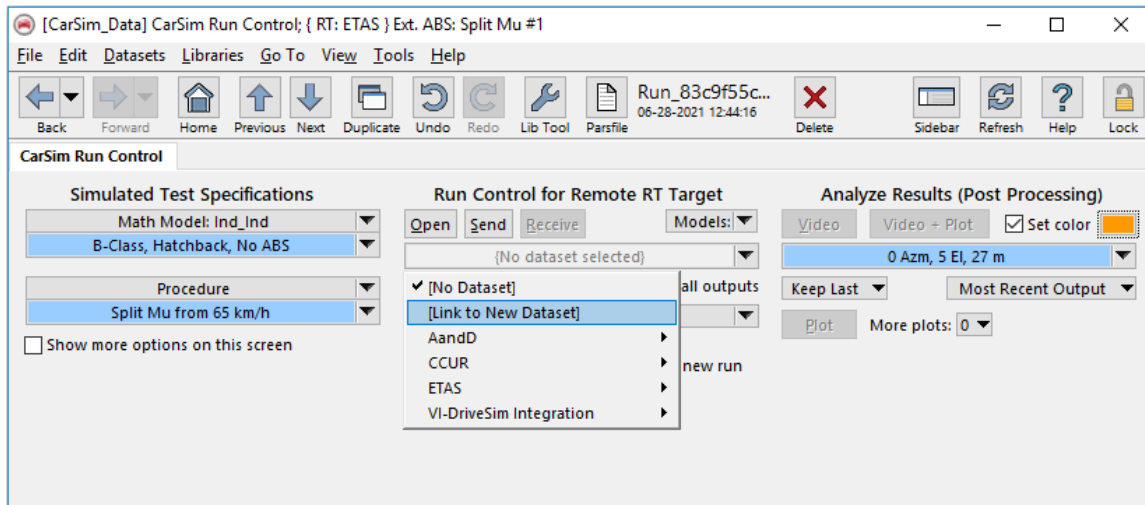

Figure 41. Make a new dataset in the Models: Transfer to Remote RT Target.
3. Use the dataset select control under the **Models** control and choose the option **Link to New Dataset** (Figure 41). Give the new dataset a name and category, such as COSYM Target as a category and Base Model as a title.